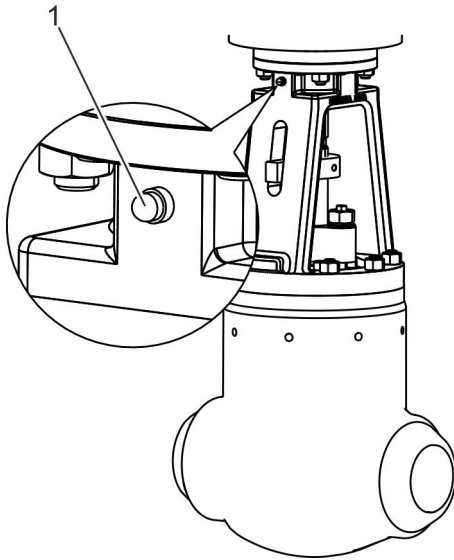

Fig. 18: Lubricating nipple
- Grease stem thread and bearing via lubricating nipple (Fig. 18).